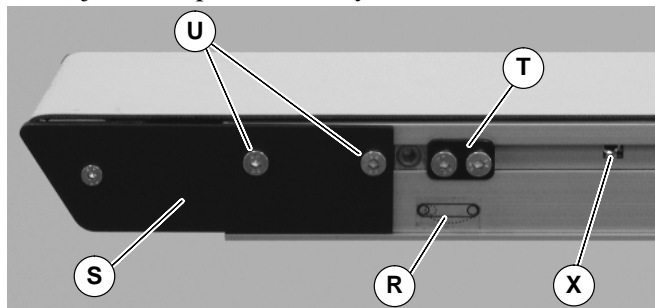

Figure 27
1. On tension end of the conveyor, identified with a  label (R of Figure 27), adjust head plate assembly (S): On both sides of conveyor, loosen fastening screws (U) and rotate pinion gear (X) to adjust head plate assembly.
3. After adjusting proper tensioning, tighten fastening screws (U of Figure 27) on both sides of conveyor to 7 Nm.
4. If equipped with cam tracking assemblies (T of Figure 27) position against head plates and adjust belt tracking. Refer to “Conveyor Belt Tracking”, next section.